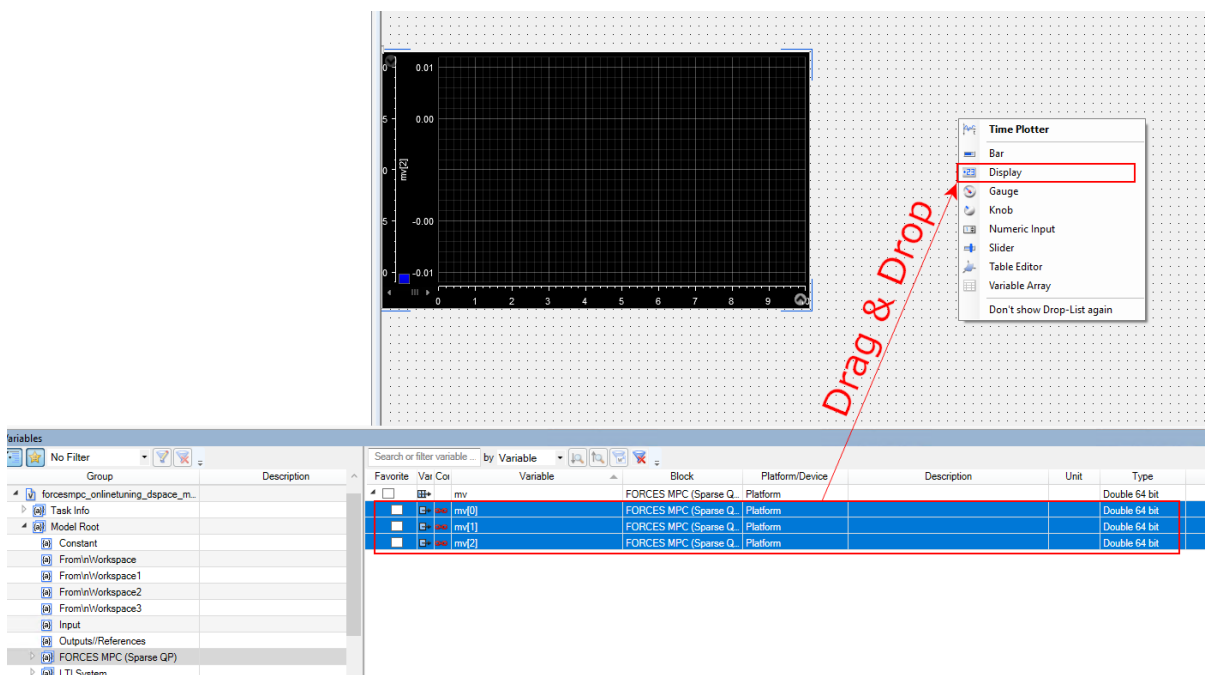

Figure 5.17: Add the variables as displays
- 13) Drag & Drop the output variables again and now choose Display (see Figure 5.17).